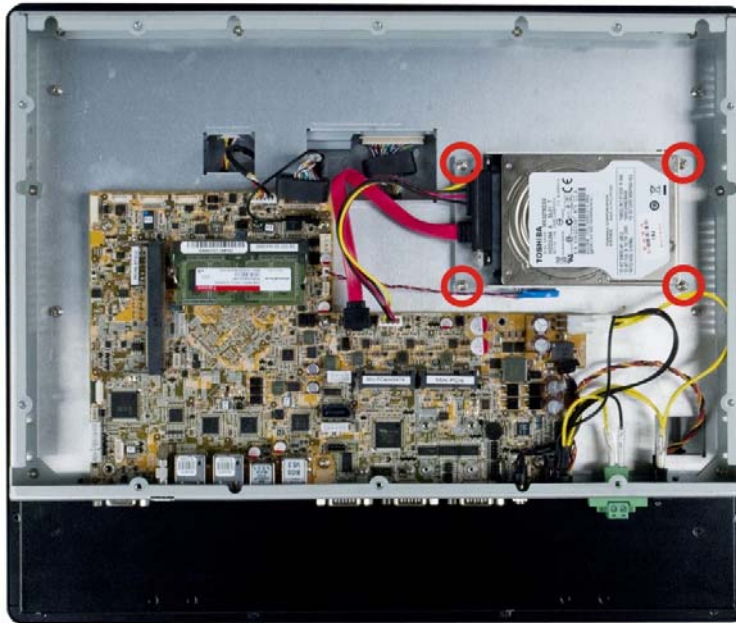

Figure 3-6: PPC-F17B-BTi HDD Installation
Step 5: Reinstall the HDD bracket into the PPC-F12B/15B/17B-BTi and fasten the four hard drive bracket screws (**Figure 3-6**) Connect the SATA and SATA power cables.